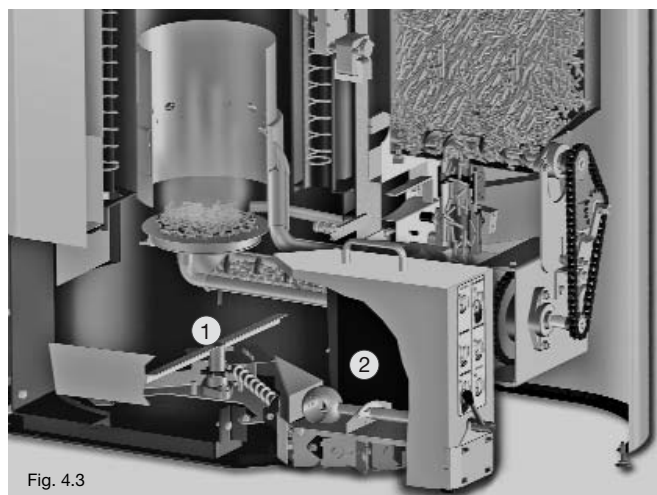

Fig. 4.3
But even then there is no need to rush. The large Pelletti ash pit continues to collect the accumulating ash over several weeks, even with a completely filled ash container ② (Fig. 4.3).